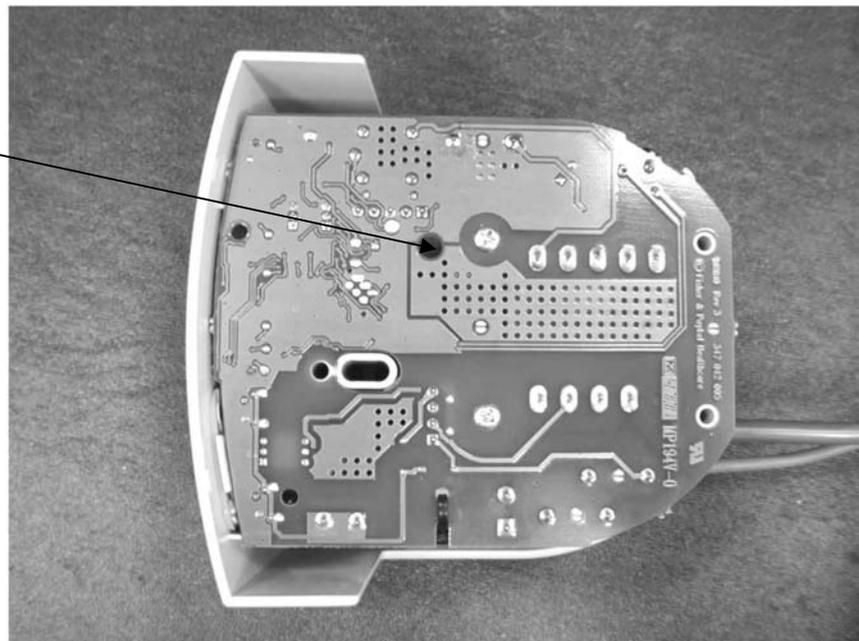

Figure 6.5: Location of the thermal cut out reset button
2. With the humidifier upside down, the thermal cut-out can be reset by depressing the red thermal cut-out reset button through the hole in the PCB (Figure 6.5), using a pin of at least 60 mm long and diameter of approximately 4-5 mm. If the thermal cut-out “clicks” when pressed then the cut-out had been tripped.